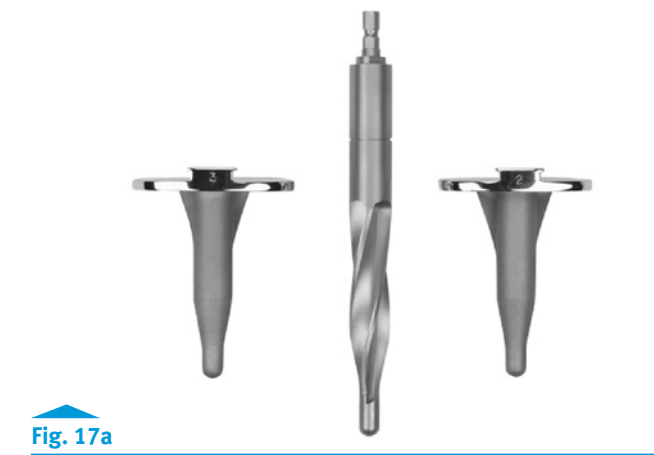

Fig. 17a
- If using a nonmodular tibial base plate (sizes 1, 2, and 3 only), use the corresponding RH Knee Nonmodular Tapered Tibial Drill in place of the stem base drill (Fig. 17a).